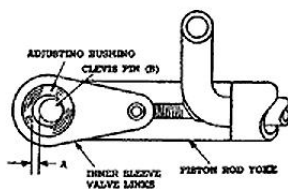
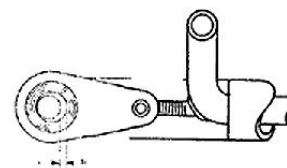

Fig. 7
Fig. 8
4. With the engine running, to provide a source of vacuum, move the valve links away from the cylinder until all clearance between the adjusting bushing and clevis pin is forward of the clevis pin. (See "A" Fig. 7.) In this position the piston rod should move slowly outward. Now move the valve links toward the cylinder until all clearance between the adjusting bushing and the clevis pin is rearward of the clevis pin. (See "B" Fig. 8.) In this position the piston rod should move slowly inward.